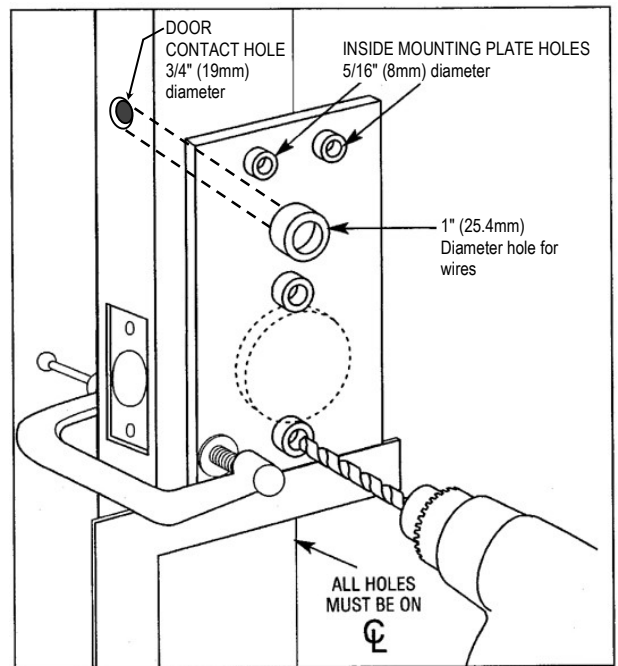

FIG. 2: ALARM LOCK INSTALLATION JIG
Drill a 1/4" hole in door edge to the 1" hole as shown in Fig. 2. Then use a 3/4" bit to enlarge this hole to a depth of 7/8" to allow the Door Contact to fit flush.
2. For best results, align the Installation Jig to door with a square and clamp to door before drilling. See Fig. 2.